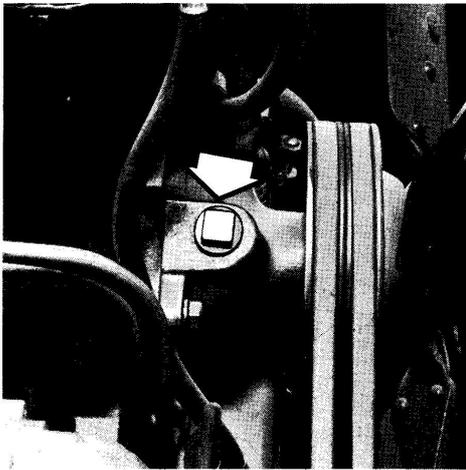

Fig. 17. Pipe plug to be removed from water pump.
- a. Remove the 1/2" pipe plug from the right hand side of the water pump on the forward end of the block, Fig. 17.